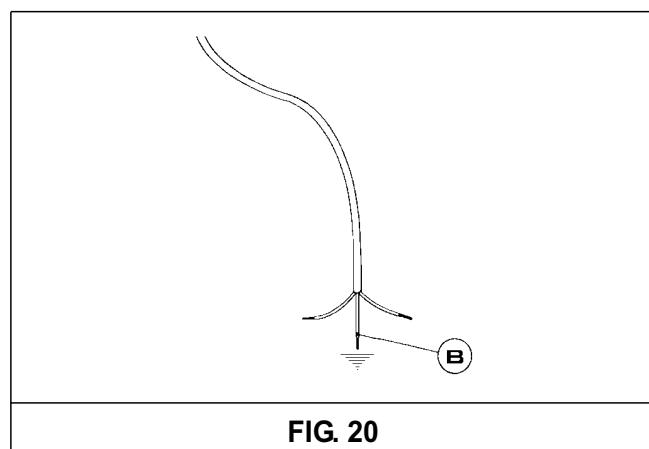

FIG. 20
*If the power supply cable is replaced, the installer should leave the ground wire longer than the phase conductors (fig. 20) and comply with the recommendations given in paragraph 8.*